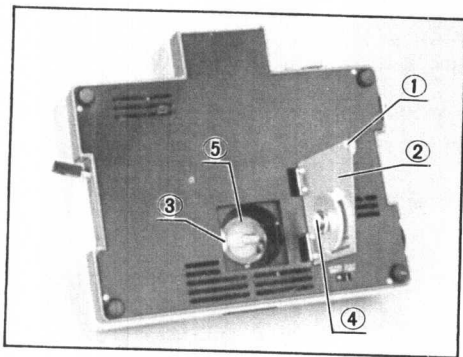

Fig. 9
- 1) Loosening the clamping knob ①, open the bulb cover ②. (Fig. 9)
- 2) Pull the contact pins of a halogen bulb from its polyethylene bag. Insert the contact pins into the socket ③ without touching the bulb portion with your hands. (Fig. 9)
- ★ Do not leave smudges or fingerprints on the mirror surface ④ or the heat filter ⑤ when installing the bulb and socket in the lamp housing. If smudged, they should be wiped clean with gauze and a 3:7 mixture of alcohol and ether.
- 3) Close the bulb cover ② and clamp the cover with clamping knob ①.
④' Attaching the stage glass